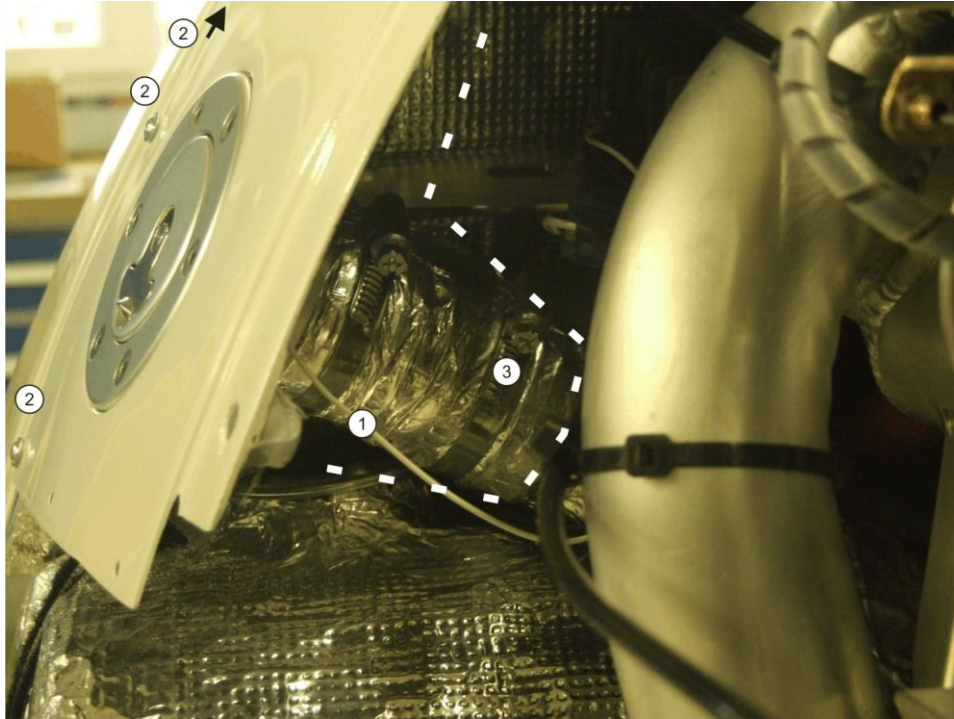

Fig. 1 - Fuel filler neck with hose at LH fuel tank
- 2 Completely remove inserts from specially marked fasteners, see shaded areas on Fig. 1 (a total of 7 fasteners).